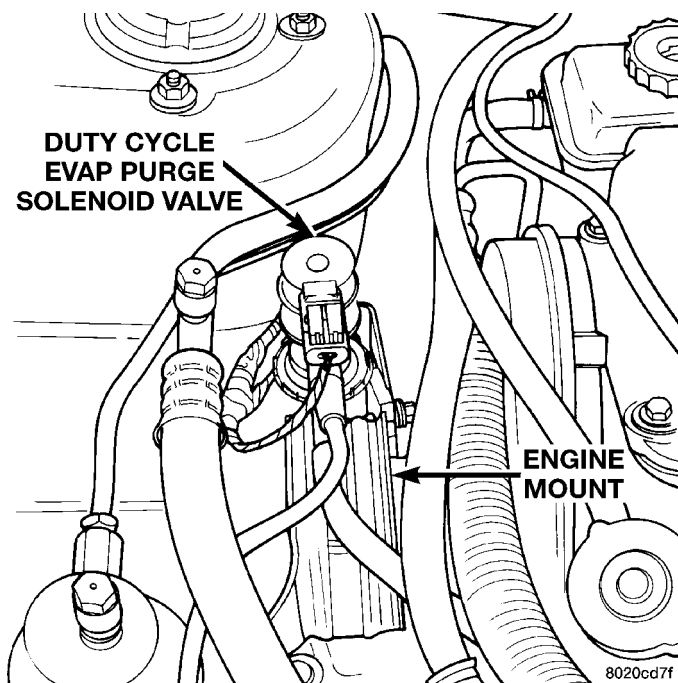

Fig. 62 Duty Cycle Purge Solenoid
(10) Inspect the electrical and hose connections at the duty cycle purge solenoid (Fig. 62).